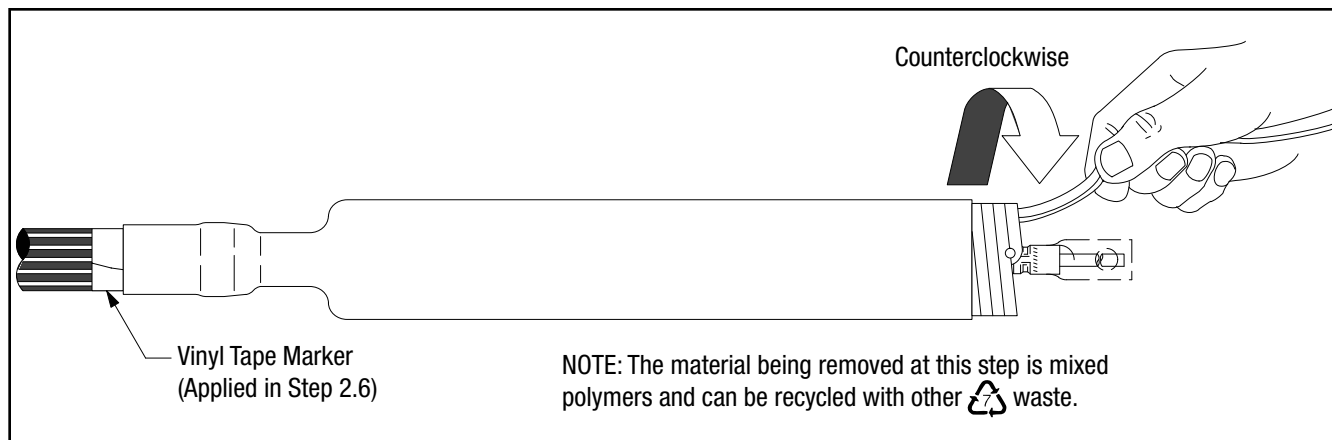

Figure 5
- 5.1 Slide the termination body onto the cable and remove core.** Make sure the termination body (not the core) is butted up to the edge of the vinyl tape marker previously applied (Figure 5). Pull the core while unwinding, counterclockwise, starting with the loose end (Figure 5). Be sure to alternate the pulling and unwinding actions (pull-unwind-pull-unwind-etc.) to help prevent the core material from binding up as the core is being removed..